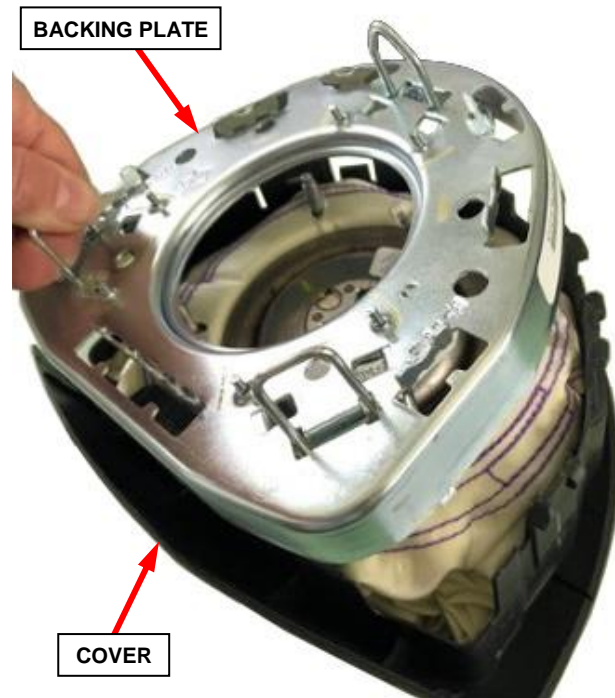

Figure 10 – Remove Backing Plate
5. Remove the backing plate from the cover (Figure 10).